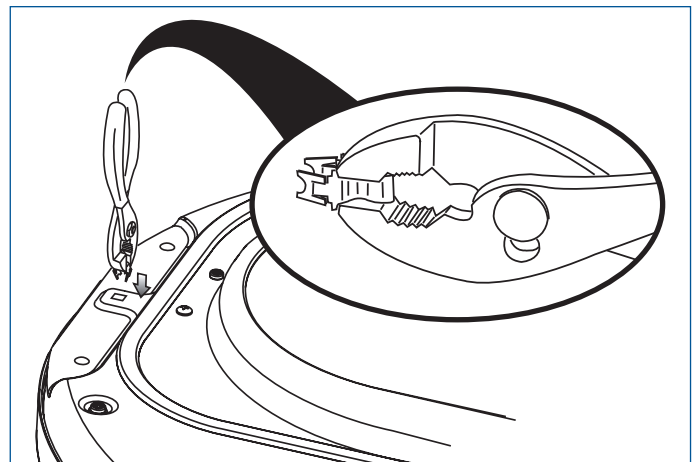

Figure 2-29.
5. Locate new metal strike supplied with dryer manuals. Grip new strike with pliers as shown below. Firmly insert the strike so it is oriented vertically. (See Figure 2-29)